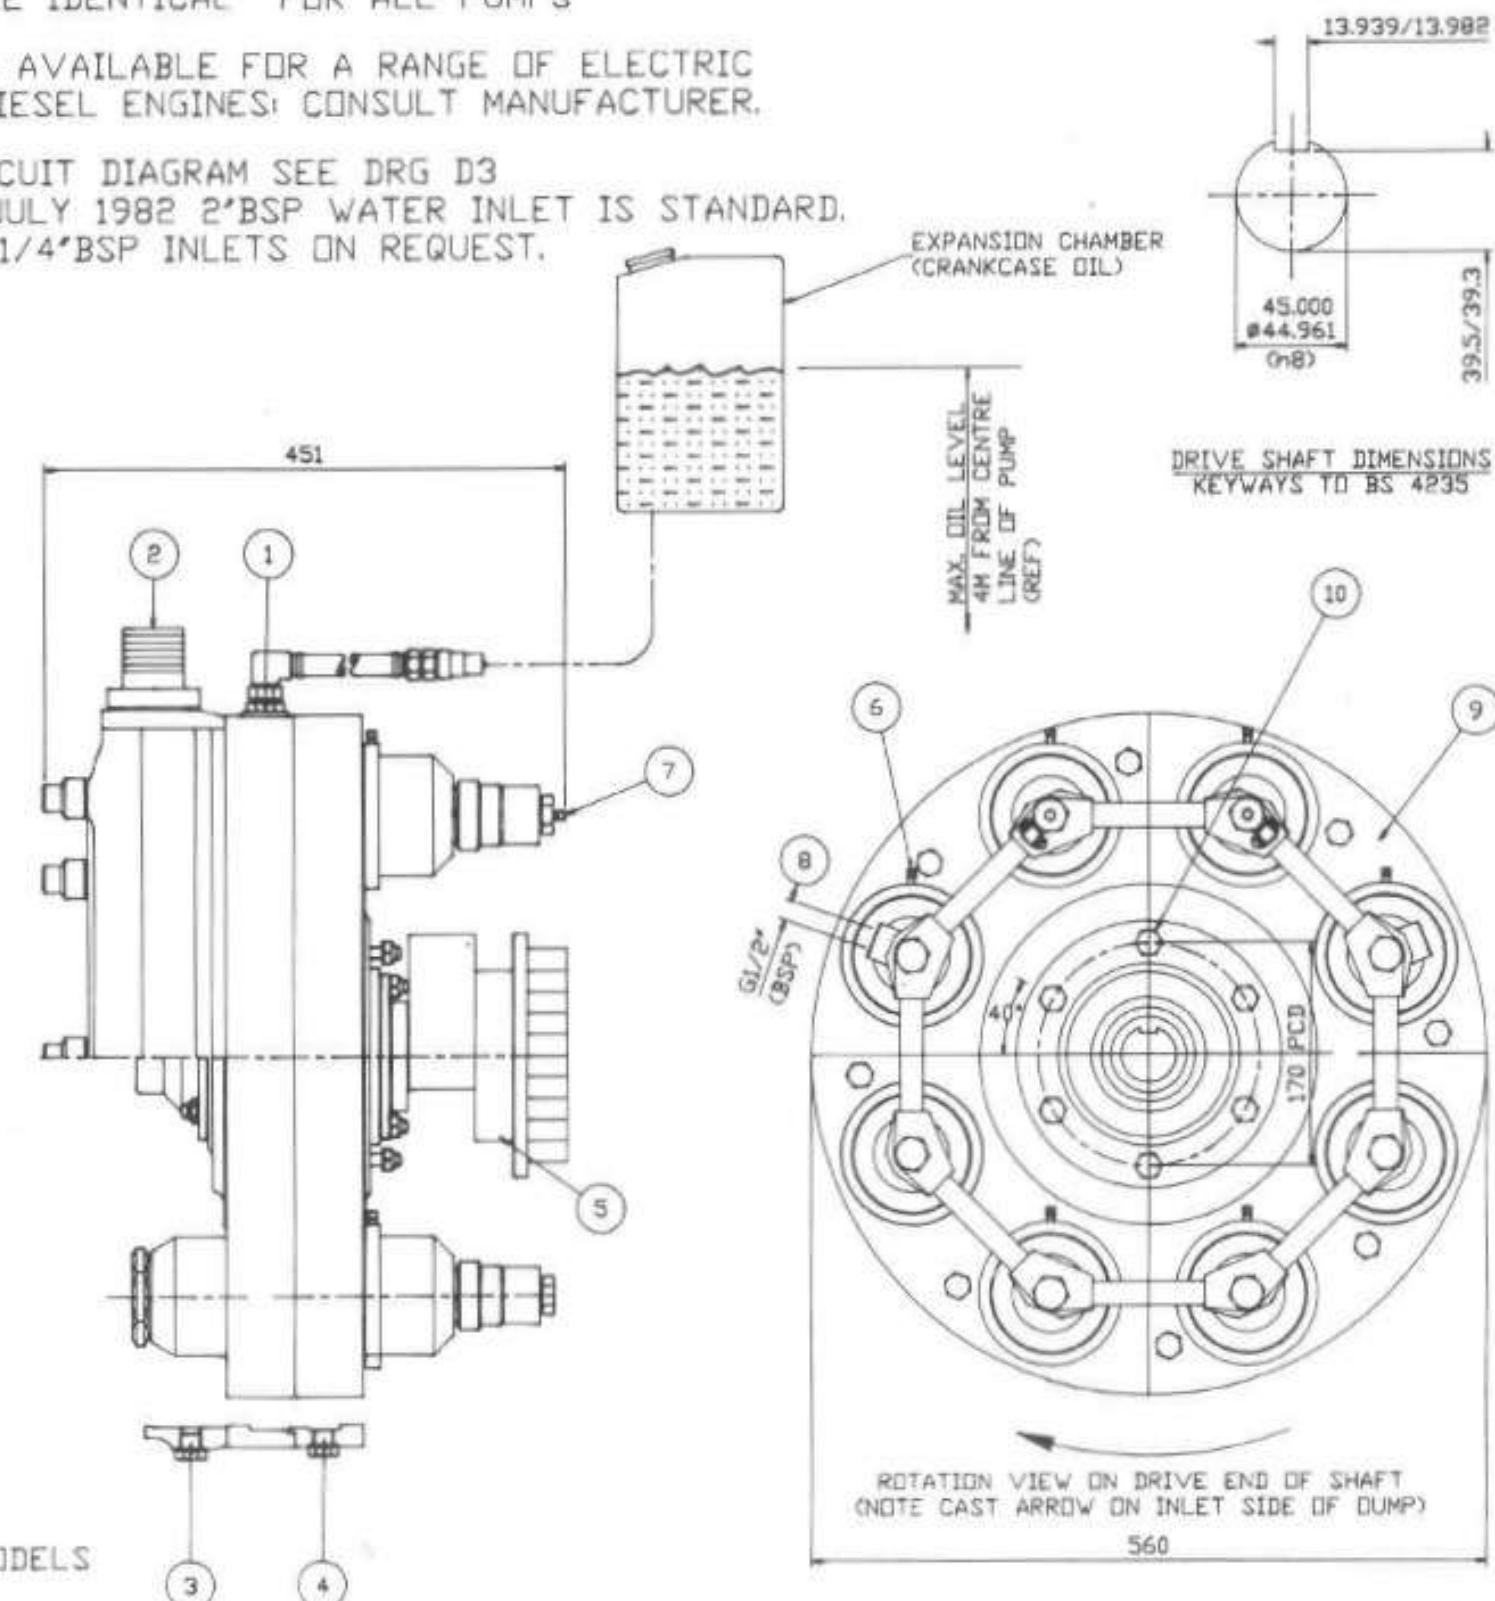

Fig 1.1 Harben Century Type High Pressure Pump
NOTE For full details of the pump physical data refer to Fig 1.1.
1. It may be the case that the pump has not been purchased as part of a trailer or skid. The information given in this section is intended to enable customers to install the pump package in a frame of their design. It will enable engineers to carry out preliminary design work before submitting the design for Flowplant Group approval. Refer to Section 1 for technical data and a description of the pump. Section 1, Fig 1.1 should be referred to for further technical details and installation data.